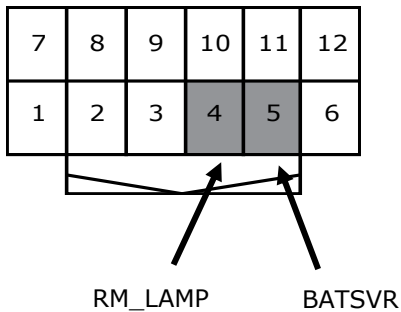

**Fig. 1**
- The first accessory is tapped, relieved and secured as shown in Fig 1 thru 5 (these steps are always the same).